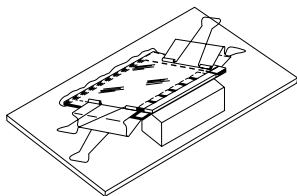

Figure 3. Tilting the Gel During Well Polymerization.
5. Tilt the plate assembly back to a 20° to 30° angle (figure 3), and add 100 to 200 µl of additional stacking gel solution to the top of the gel. This will improve polymerization at the outside edges of the comb. Allow the acrylamide solution to polymerize completely before removing the comb.
4. Carefully, so as not to dislodge the agarose plug, tilt the glass plate assembly back to a 20° to 30° angle (figure 3). Add 100 to 200 μl of additional acrylamide solution to the top of the gel. This will improve polymerization at the edges of the comb. Allow the gel solution to polymerize completely before removing the comb.